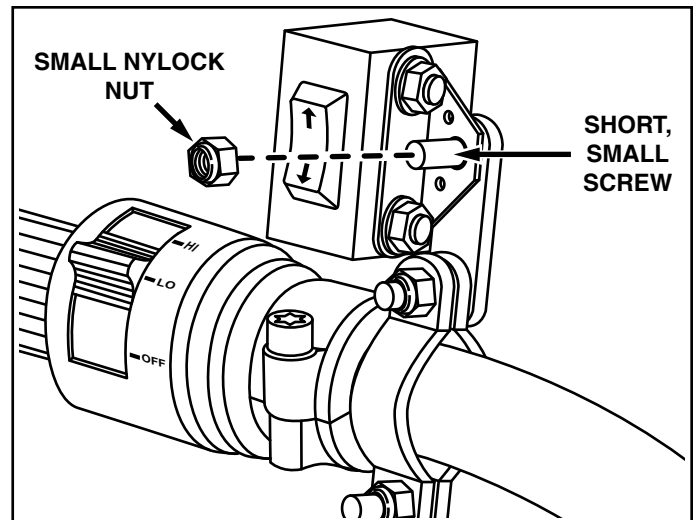

FIGURE 3
3. Assemble the switch bracket to the handlebar strap using (1) short, small screw and (1) small nylock nut. See figure 3. **Do not tighten yet.**